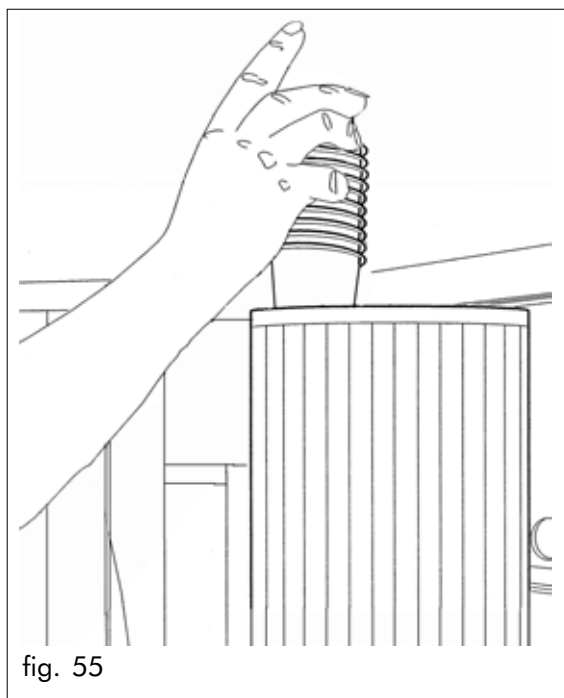

fig. 55
- Before switching on the vending machine, load a column of cups as long as it is not the one correspondent to the dispensing ring (fig.55).